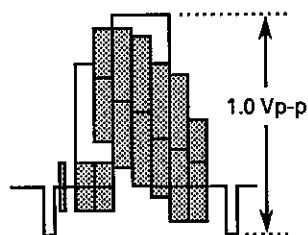

Figure 5-3.
3. Make sure that the E-E signal amplitude is 1.0 Vp-p as shown in Figure 5-3.